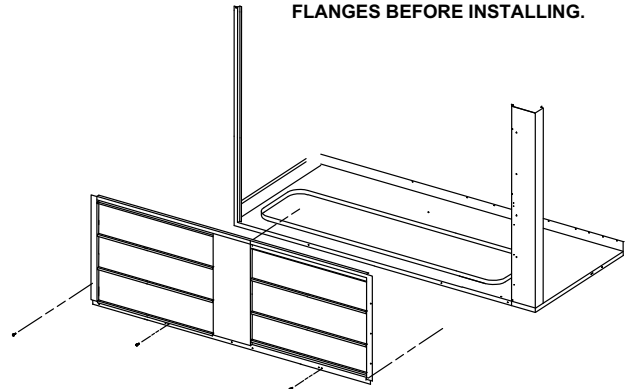

FIGURE 1
- 2- Align holes along the flanged edge of the exhaust damper with holes along the bottom of the unit. See figure 1.